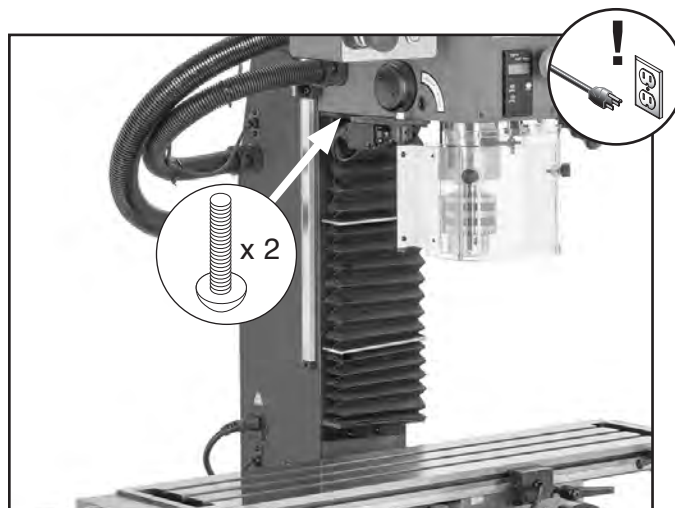

Figure 65. Location of Z-axis cover Phillips head screws.
1. Remove (2) Phillips head screws securing top of Z-axis way cover in place (see **Figure 65**).